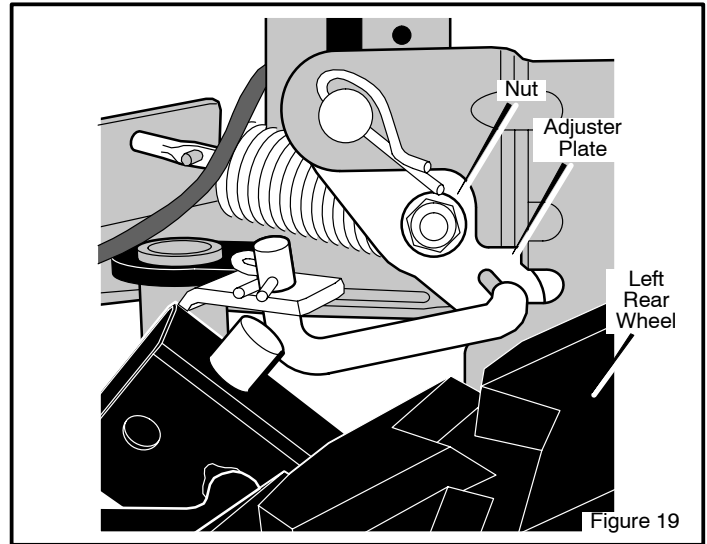

Figure 19
3. Loosen the **nut** on the **adjuster plate** (see Figure 19). The **adjuster plate** is located under the left rear fender.